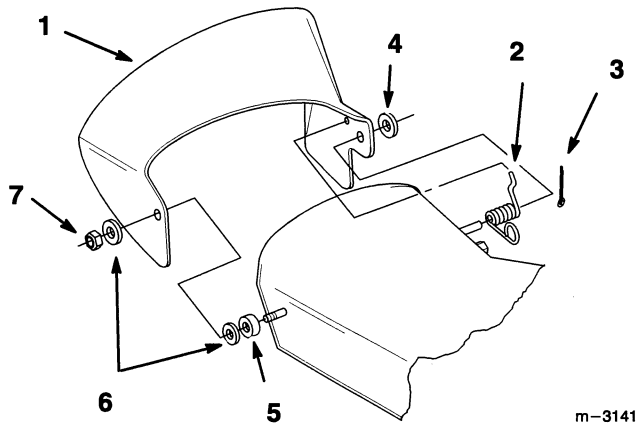

Figure 1
1. Locate the items shown in Fig. 1.
3. Position spring and grass deflector over post on rear of deck and secure with 1/2" washer and 3/4" cotter pin (Fig. 1).
5. Place grass deflector over stud and secure with second plastic washer and 3/8" jam nut (Fig. 1).